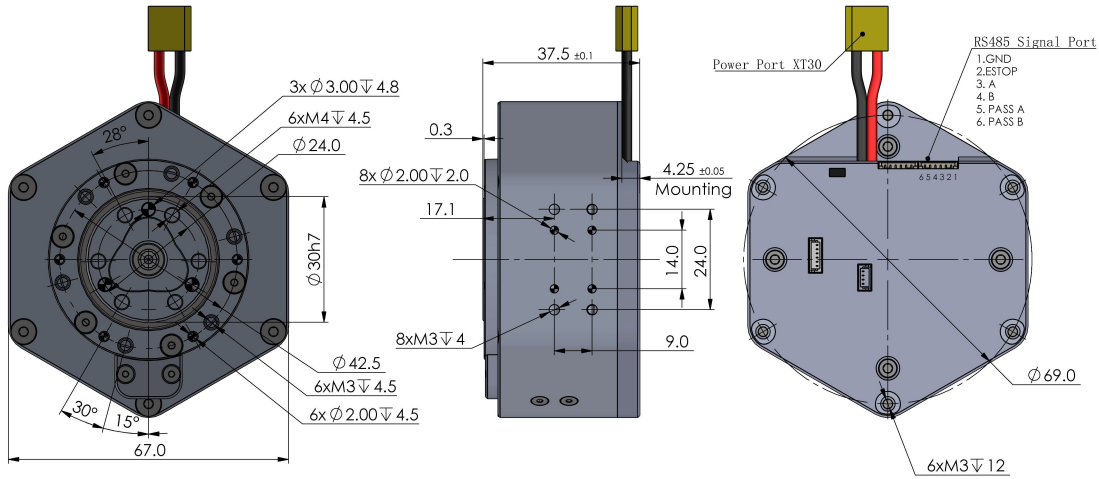

Figure 2: Koala BEAR Muscle Build V1 Specs
The mechanical and electrical as well as the thermal management features are introduced as following, with the help of figure 2.
- **Mechanical Features** The dimensions and locations of mounting features are annotated as in figure 2. There are six M4 screw holes and three 3mm pin holes on the output shaft for locating and connecting the payload.